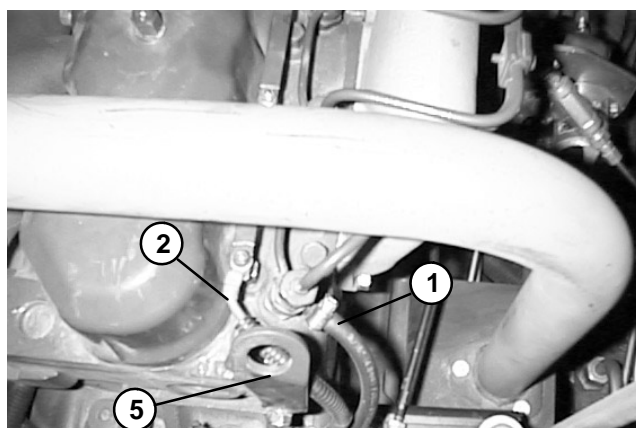

Figure 23
- B. Return hose from the fuel injectors (Fig. 23).
- C. Disconnect red/black wire from the glow plug bus bar (Fig. 23).
C. Connect red/black wire to the glow plug bus bar (Fig. 23).
B. Return hose from the fuel injectors (Fig. 23).